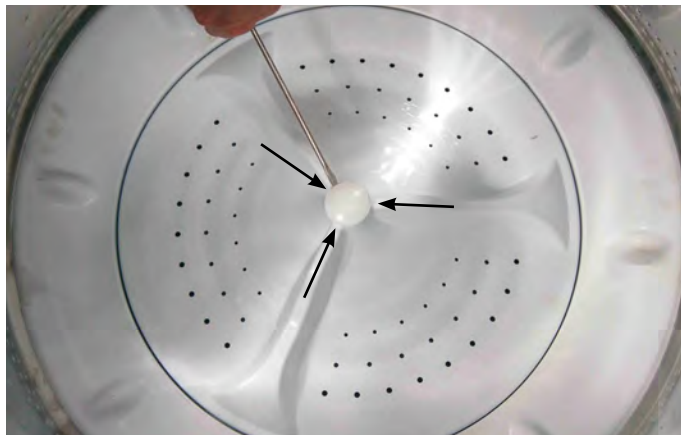

Figure 6
1. Insert the blade from a small screwdriver into the slot in the impeller cap, then pry the cap up and remove it (see Figure 6).